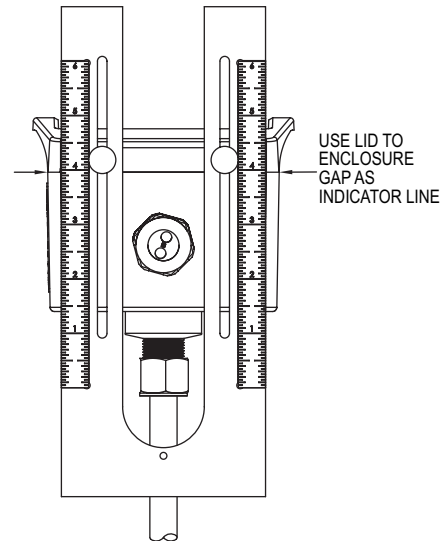

Figure 9: Alignment of scale on IEF lid
A depth and flow alignment installation tool is provided to ensure proper depth insertion and flow alignment. To set the insertion depth, verify the alignment scale is set to the alignment scale value recorded previously as shown in figure 9 below. Loosen compression nut (4) to allow the shaft (3) freedom to travel up and down and rotate inside the process collet (5).